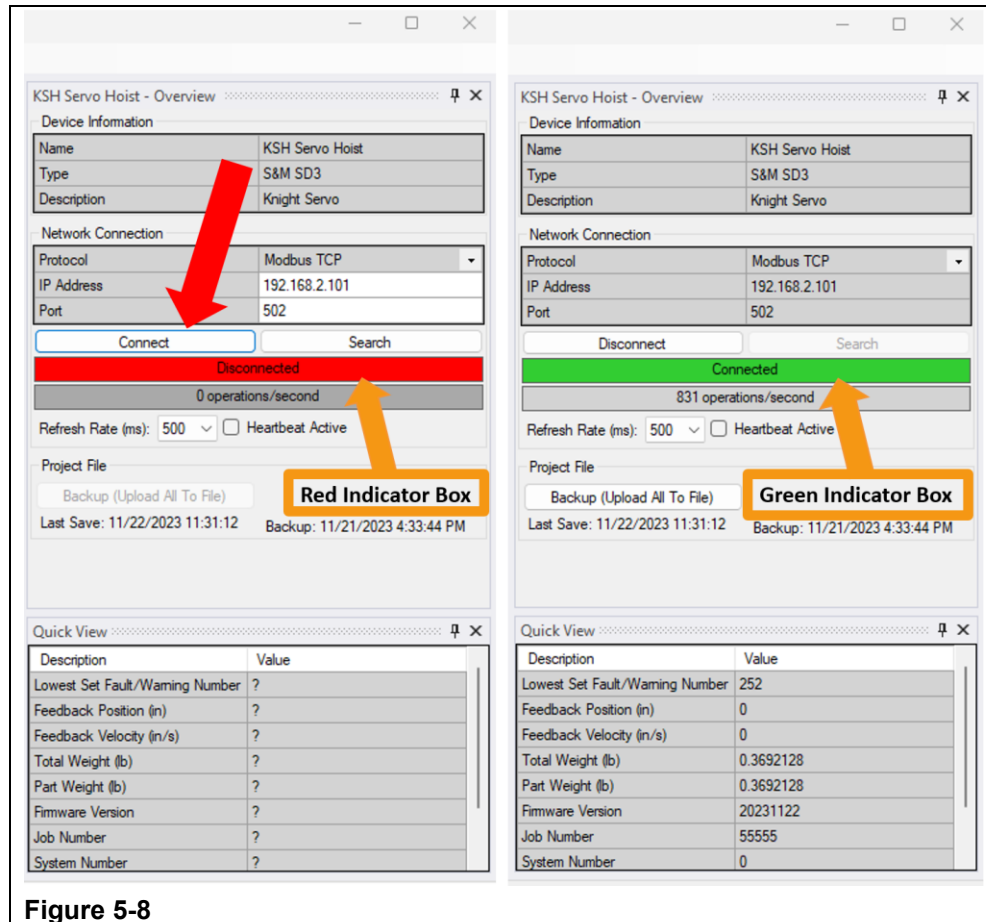

Figure 5-8
- Step 5. Move the mouse to the right side of the screen and select the 'Connect' button. If the communications are working correctly the red 'Disconnected' indicator will appear green 'Connected' box. (See Figure 5-8)